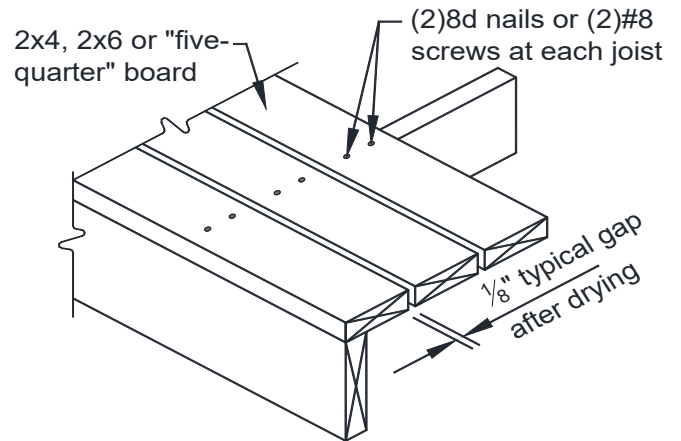

FIGURE 1: TYPICAL DECKING
- Wood decking shall be attached per FIGURE 1. If installed wet, place decking with no gap so after drying a 1/8-inch gap is created. The use of hidden fasteners and similar attachment devices are permitted; see below for requirements.